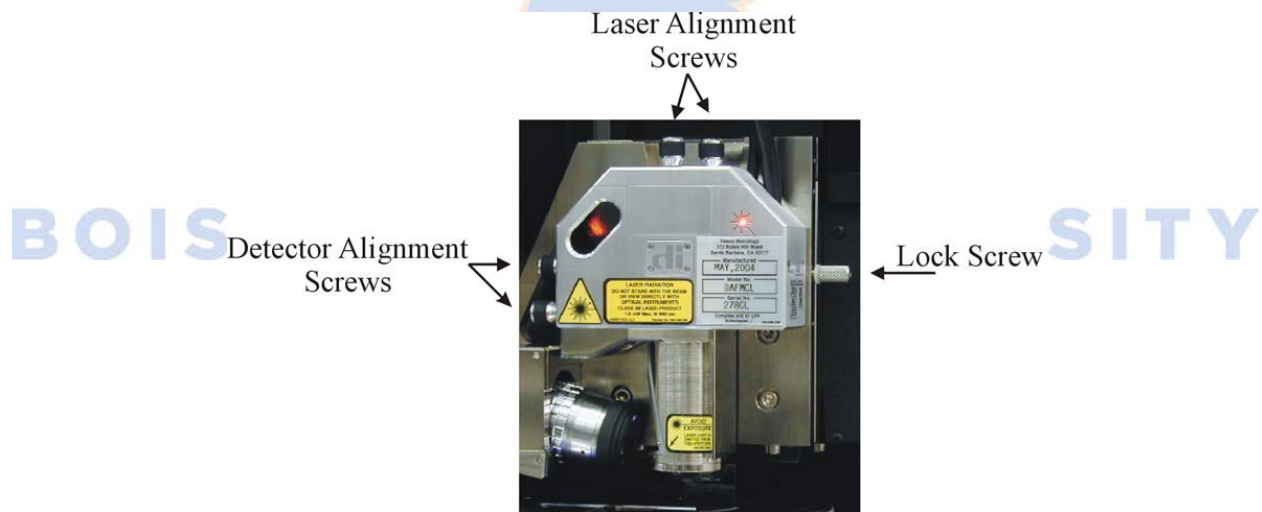
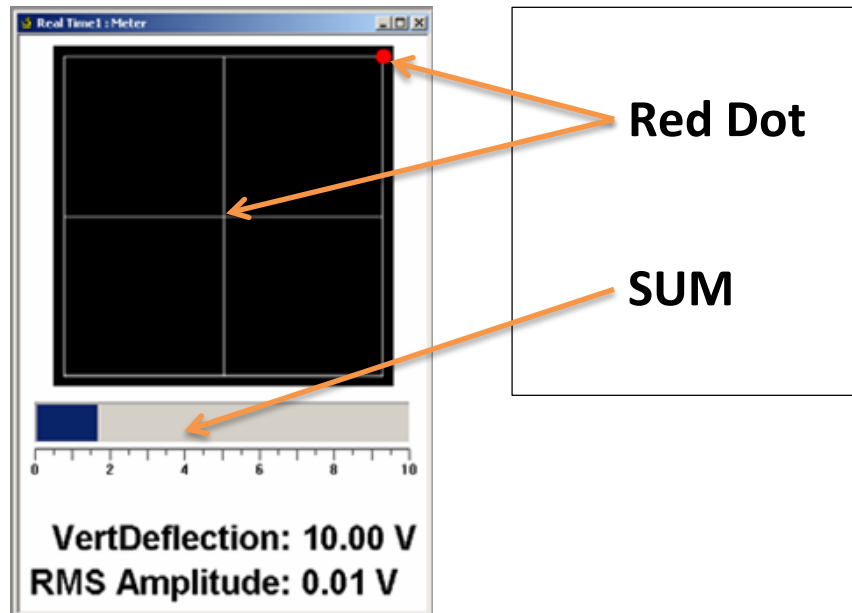

Figure 5. Photo of the D3100 AFM head showing the location of the locking screw and alignment knobs.
Figure 8. Position sensitive photodiode signal screen showing beam location and signal strength (SUM).
- c) Unlock the AFM head by turning the locking screw (Figure 5) **clockwise** (i.e., to the **right** – the **opposite** of a normal screw – the locking screw has a left hand thread).
- c) Use the laser alignment screws (Figure 5) to adjust the laser until it just hits the end of the probe cantilever (red laser spot will appear split on the paper), then maximize the photodiode SUM (Figure 7 & Figure 8) by moving it left/right and forward/back.
- d) Gently reinsert the AFM head on the dovetail rail holder and turn the lock screw to the **left** (opposite of a normal right hand thread screw) to secure the head (Figure 5).
- e) Adjust the position of the red dot (Figure 8) using the detector alignment screws (Figure 5) until centered on the crosshairs. At this point the VertDeflection should be approximately zero (0.00 +/- 0.05 V) and the sum (bar graph) should be in the range of 4-5 Volts depending upon the type of probe used (probes with an aluminum backside coating are more reflective than bare silicon).